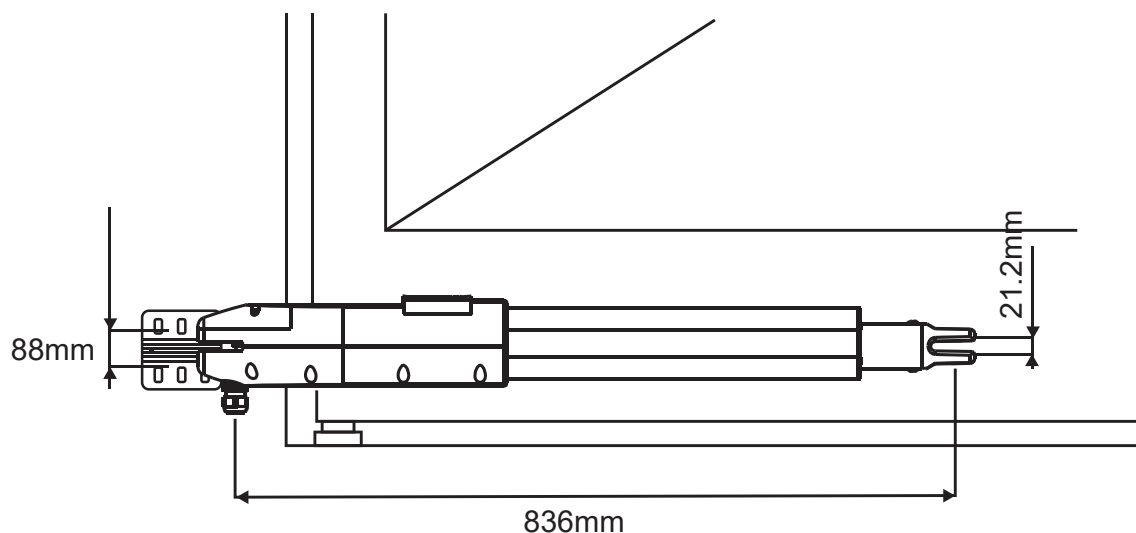

FIGURE 23
- ❷ Refer to the distance of "B" in figure 17, place the rear plate in the correct position on the mounting surface. Inspect if the distance is proper as shown in Figure 23 i.e. the position the front plate of the motor to be installed.
- ❸ Place two post brackets on the surface to be installed and mark the drilling points, then drill minimum diameter of 8mm holes by four on the mounting surface to be installed and fasten up the brackets with screws and washers.
- ❹ Please make sure the front plate is completely installed horizontally.
- 10 Refer to Figure 23, the distance between front plate of the motor and rear plate is 836mm, the difference in height is 21.2mm.